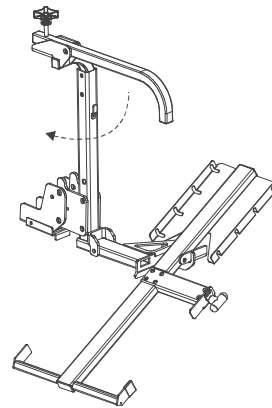

Figure 4-15
4. Fold the hold-down arm down. *See Figure 4-15.*